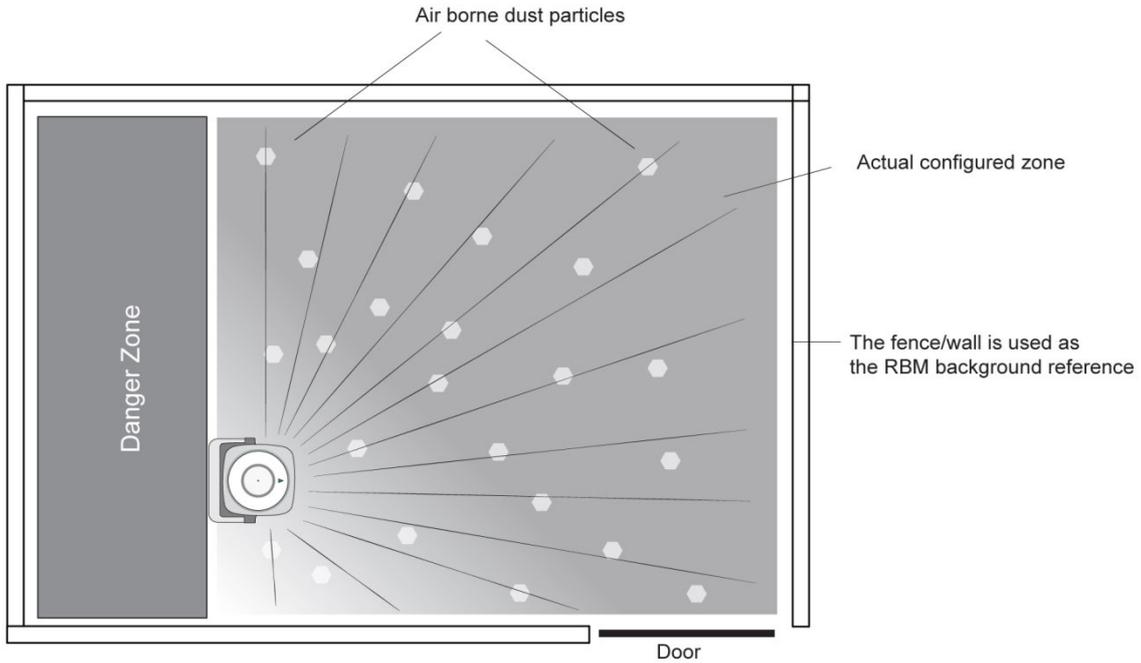
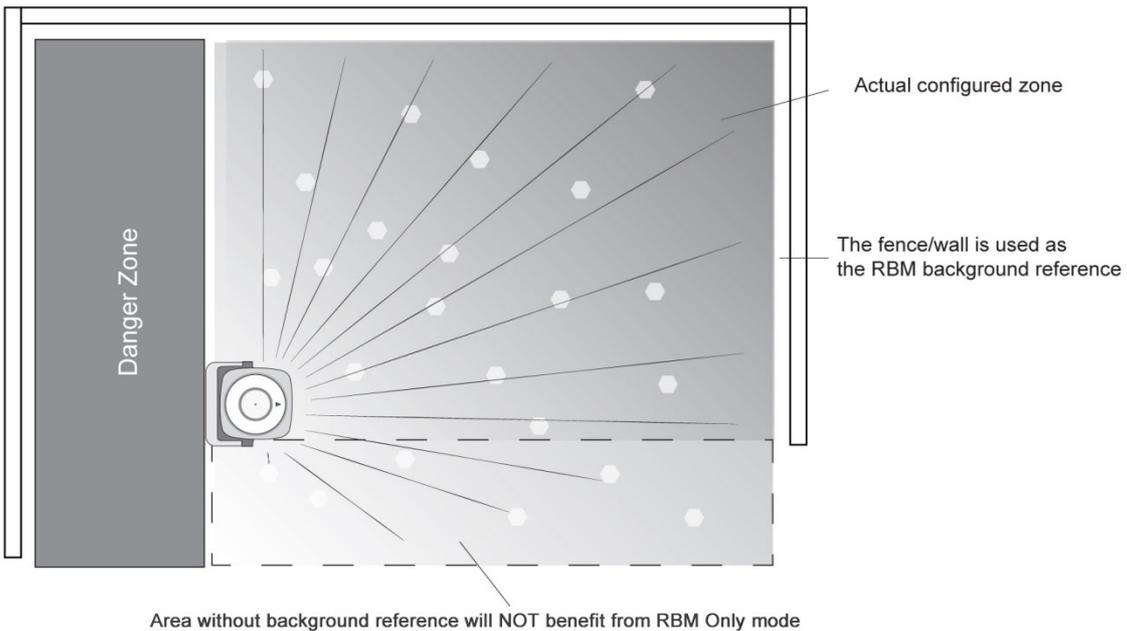

Fig. 2-3 Full Reference Boundary
Fig. 2-4 Partial Reference Boundary
**RBM Only:** This mode includes all features in Window Only. In addition, it will filter out pulse reflections in the guarded space (safety zone). These pulses could be caused by airborne dust/ or other contaminants. This mode works in conjunction with reference boundary monitoring and depends on a pre-defined reference to provide the filtering (tolerance) function. This RBM Only mode uses multi-pulse sampling for beams configured with reference boundaries, see Fig. 2-3. Areas consisting of beams without a reference will not benefit from this function. See Fig. 2-4 for further explanation.